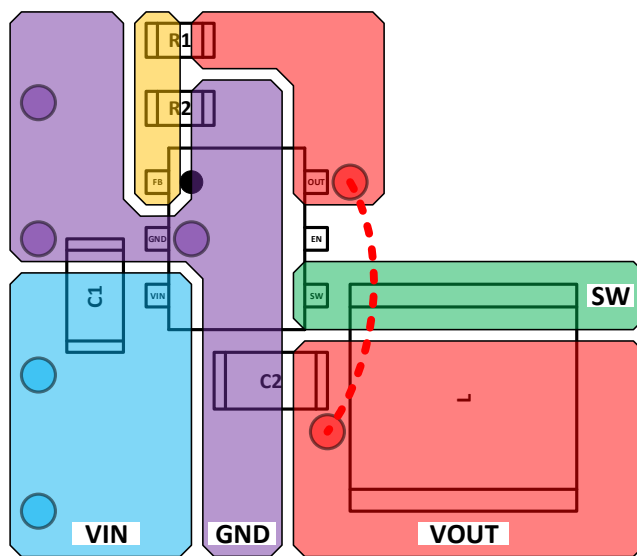

Figure 38. AP61100 Recommended PCB Layout
9. See Figure 38 and Figure 39 for more details.